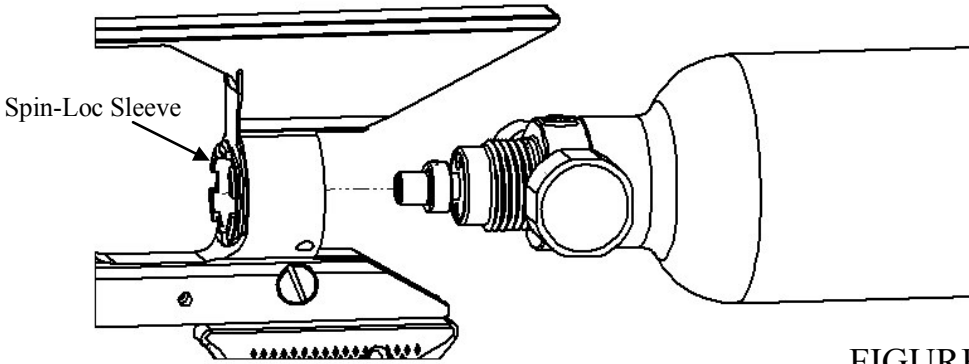

FIGURE 1
- 1: Slide the air tank into the rear of the frame. See FIGURE 1.